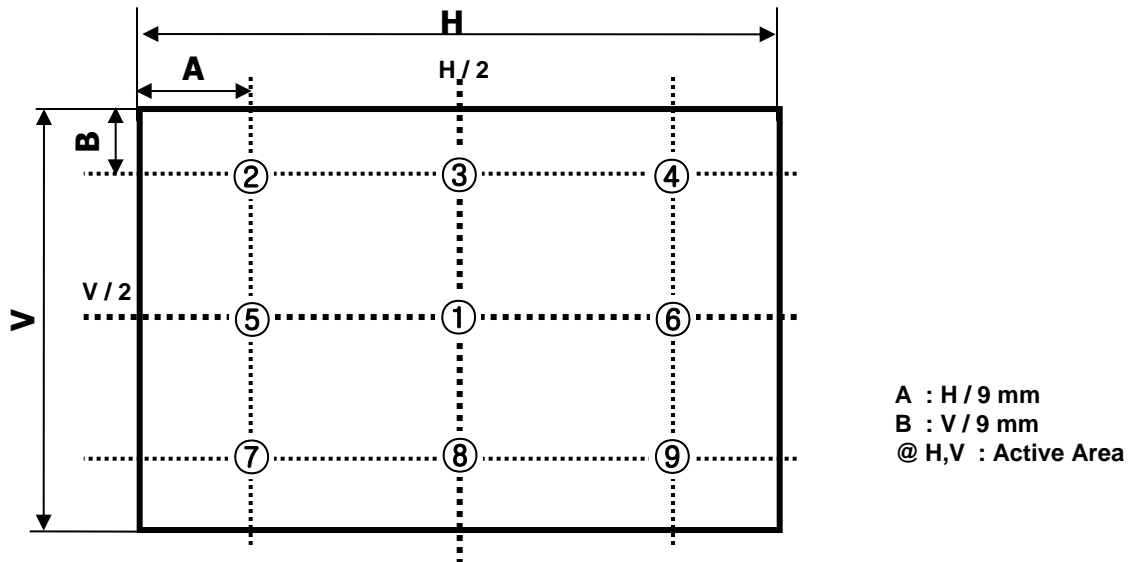

FIG. 2 9 Points for Luminance Measure
2. Optical Characteristics is determined after the unit has been 'ON' and 1 Hour after lighting the backlight in a dark environment at  $25 \pm 2^\circ\text{C}$ . Surface luminance is the luminance value at center 1-point across the LCD surface 50cm from the surface with all pixels displaying white. For more information see the FIG. 2